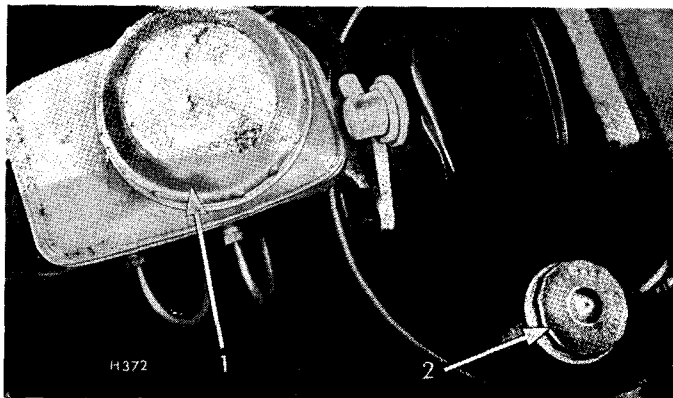

Fig. 3
**Brake Master Cylinder (1, Fig. 3)**
### Clutch Master Cylinder (2, Fig. 3).